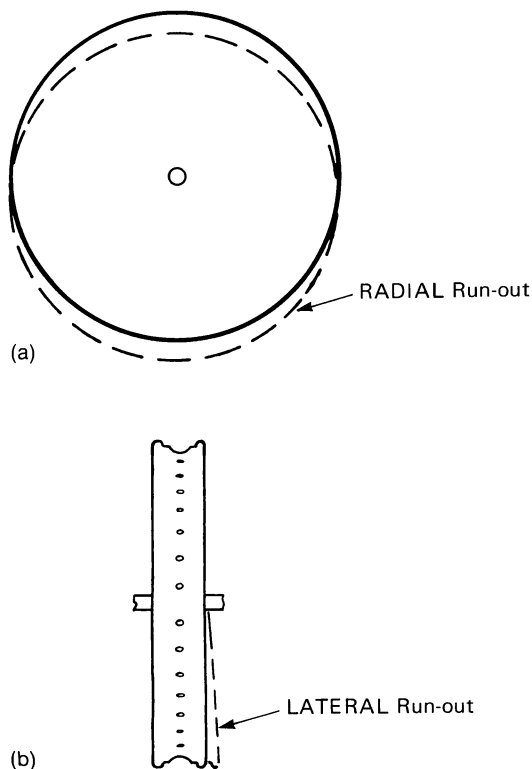

Fig. 5-10 Radial run-out (a), and lateral run-out (b)
**Truing Wheels.** A "true" wheel is one that is perfectly round with the axle in the center and has no radial run-out, lateral run-out or side wobble (Fig. 5-10).